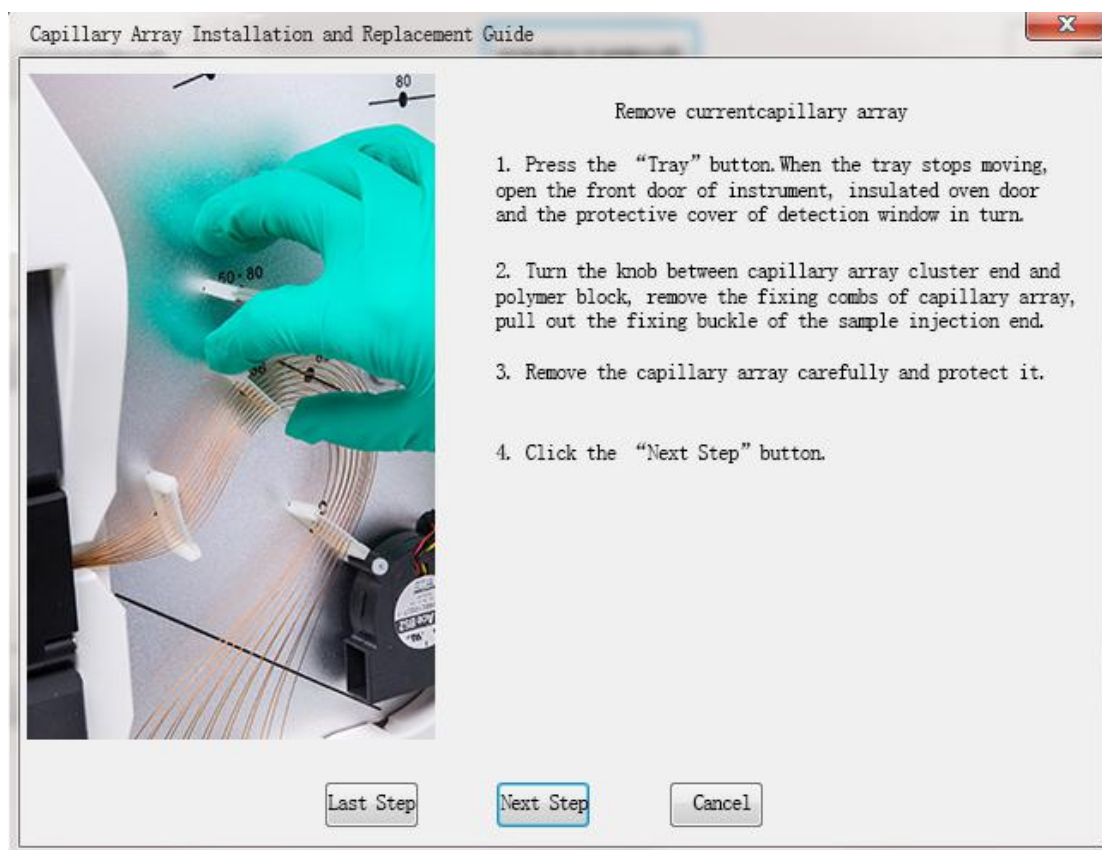

Figure 5. Removing Current Capillary Array
- (1) Press the “TRAY” button at the bottom of the panel. When the tray stops moving, the green indicator light of instrument changes from flashing to constantly on.
- (2) Open the front door of instrument, insulated oven door and the protective cover of detection window in turn.
- (3) Turn the knob of the cluster end of capillary array fixed on the upper polymer block anticlockwise, pull the upper polymer block outwards slightly, and gently pull the cluster end of the capillary array out of the upper polymer block.
- (4) Grasp the cluster end of capillary array with the left hand, take out the detection window of the capillary array with the right hand. Lift the left hand and pull out the rest of the fixing combs with the right hand.
- (5) After middle finger of the right hand holds the capillary array, the thumb and forefinger pull out the two buckles on two sides in turn, and then gently grasp the fixing buckle to pull out the capillary array injection end.
- (6) After removing the capillary array, hold the cluster end of the capillary array with the left hand. Remove the spindle sleeve and knob from the cluster end of capillary array and place the array in ultra-pure water for cleaning.
- (7) If this capillary array is needed to be reused, please take the sampling protection box out of the original packing box and fix it on the cluster end of the capillary array. Cover the protective cover of detection window, insert the cluster end into the protective bottle filled with buffer and tighten it. The last step is to place the capillary array in the original packing box and stored vertically. Otherwise, please discard the capillary array in accordance with relative laboratory regulations. As shown in Figure 5.